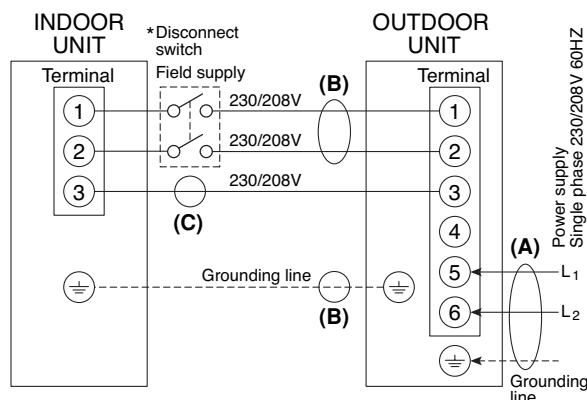

Fig. 23
Refer to the wiring system diagram (Fig. 23) for the meaning of (A), (B), and (C) in Table 5.